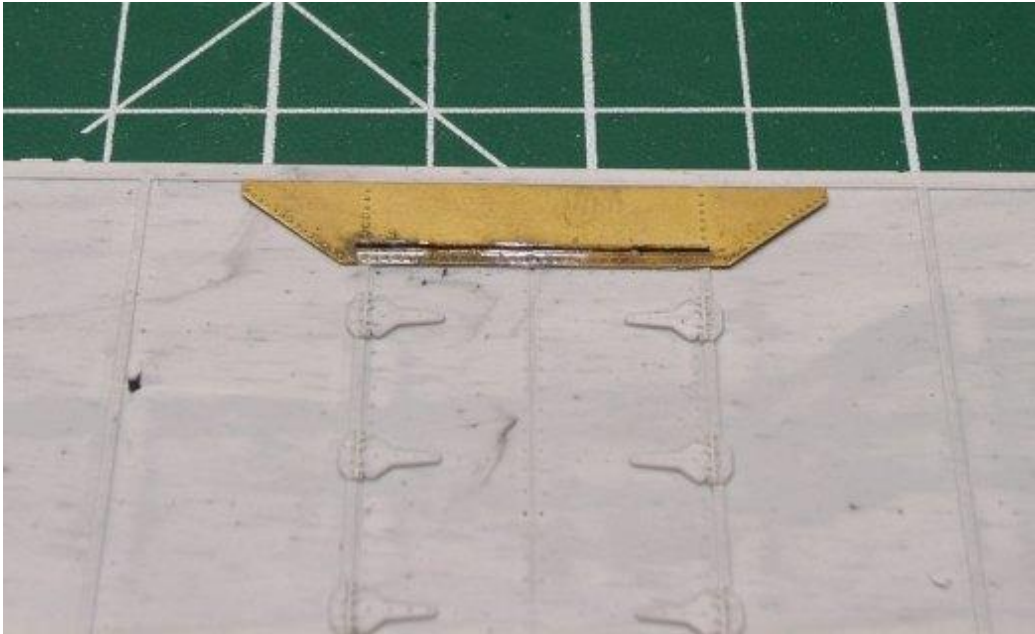

Figure B5
5. Line up the Rivet Lines on the Early Repair Patch with the remaining rivet strips on both sides of the door and glue in place. See Figure B5. Repeat steps 2 thru 5 for the other side.